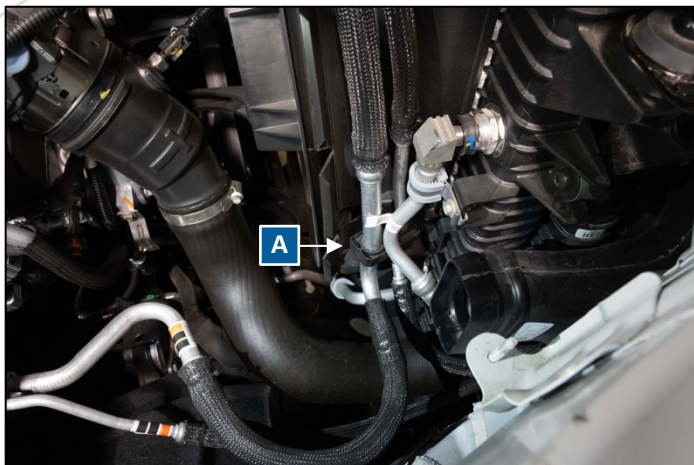

Figure 4: A/C Line Retention Clip
- c. Separate A/C line retention clip from shroud on passenger side (labeled as A in Figure 4).